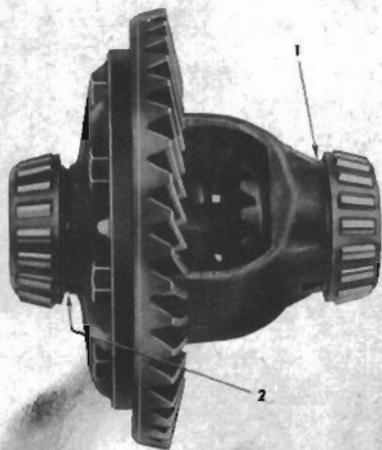
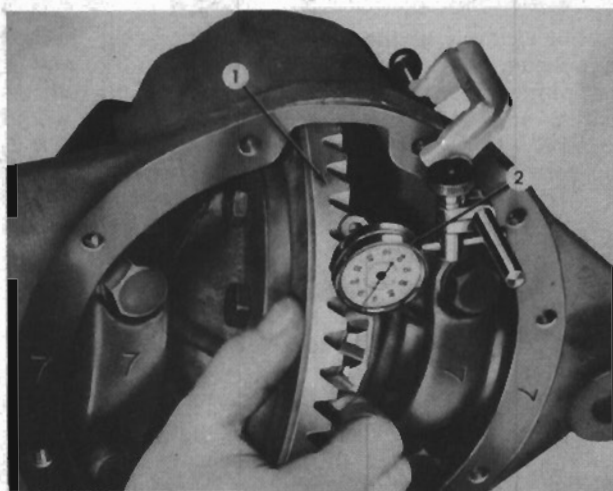

FIG. 16
FIG. 17
To determine the thicknesses of shims needed between each of the side bearing cones and the differential case, first be sure that the bearings, cups, and housing seats are clean, then place the differential assembly in the housing. Install a dial indicator on the housing, with the contact tip against the ring gear back face (see Fig. 15). Insert two large screw drivers or suitable bars between the housing and cup on the opposite side from the ring gear and move the ring gear away from the pinion until the bearing cone on the ring gear side is seated firmly in its cup and against the housing. Set the indicator to zero. Now move the assembly back toward the pinion until the ring gear meshes lightly with the pinion with zero backlash or clearance. Record the dial indicator reading. This reading less .003" (0,076 mm.) (approximate backlash) is the thickness of shims needed between the differential case and the side bearing on the ring gear side of the differential (2, Fig. 16). To find the thickness of shims needed under the other side bearing, subtract the thickness of the shims just used from the total side movement obtained earlier in the reassembly. To the figure thus obtained, add .008" (0,20 mm.) for preload.
The following example will help to clarify the differential ring gear adjustment procedure. Assume that the total side movement measured earlier in the reassembly was .072" (1,829 mm.) and that the movement just measured was .038" (0,965 mm.). Subtract .003" (0,076 mm.) (approximate backlash) from .038" (0,965 mm.), giving .035" (0,889 mm.), the thickness of shims to be placed under the bearing on the ring gear side (2, Fig. 16). Subtract this thickness, .035" (0,889 mm.), from the total obtained earlier, .072" (1,829 mm.), which gives .037" (0,94 mm.). This difference plus .008" (0,20 mm.) (preload) is .045" (1,143 mm.), the thickness of the shim pack to be put under the bearing away from the ring gear (1, Fig. 16).
RING GEAR-PINION BACKLASH—Mount a dial indicator (2, Fig. 17) on the rear axle housing with the button of the indicator against one of the ring gear teeth (1). Move the ring gear by hand to check the backlash which should be between .003" and .006" (0,076 mm. and 0,1524 mm.). If the backlash is not in the specified range, transfer the necessary number of shims from one side of the carrier to the other to obtain the desired setting. To decrease the backlash, remove shims located at (1) in Fig. 16 and install on the opposite side at (2). To increase the backlash, remove shims located at (2) and transfer to opposite side (1). Backlash will be changed approximately 2/3 of the thickness of the shims transferred.